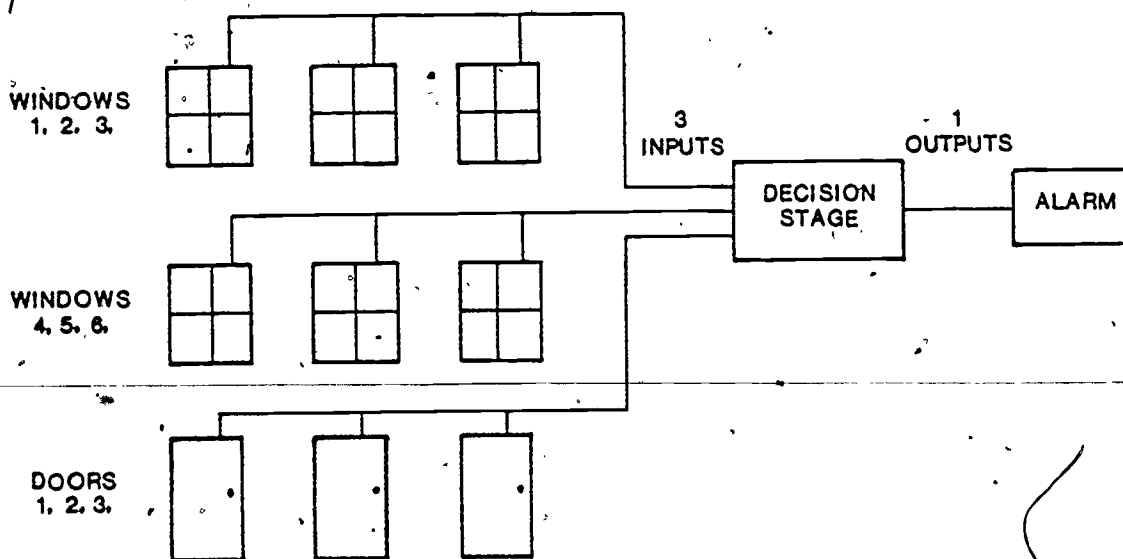

Figure 22. Decision-Making System (Window and Door Check).
Decision-making stages provide an output that depends upon a set of input conditions. However, once the output changes, this type stage cannot remember what its output was before the change. Simply stated, the decision-making digital stage has no memory. A good example of this stage type is the window and door check system shown in Figure 22.
8. Refer to Figure 22. Determine which window or door is open by writing a mathematical statement and describing the stages from left to right.